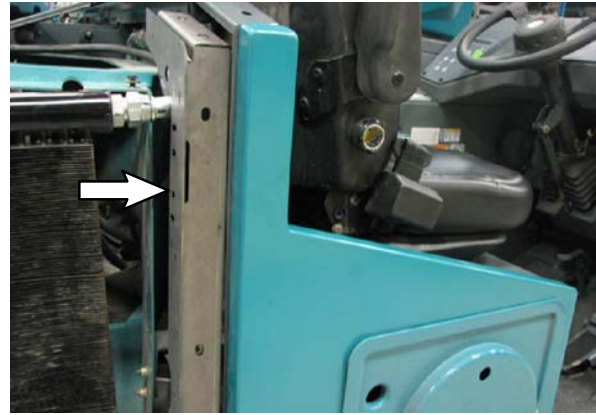

FIG. 63
78. Use the existing hardware and two SEM hex screws (30) to install the right rear hinge bracket (104) onto the machine. (Fig. 63)